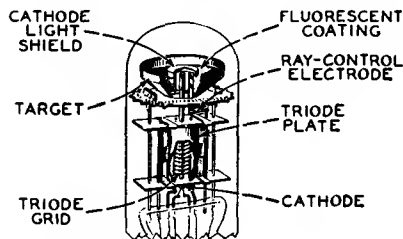

Fig. 109—Structure of electron-ray tube.
the 6E5 contain two main parts: (1) a triode which operates as a dc amplifier and (2) an electron-ray indicator which is located in the bulb as shown in Fig. 109. The target is operated at a positive voltage and, therefore, attracts electrons from the cathode. When the electrons strike the target they produce a glow on the fluorescent coating of the target. Under these conditions, the target appears as a ring of light.